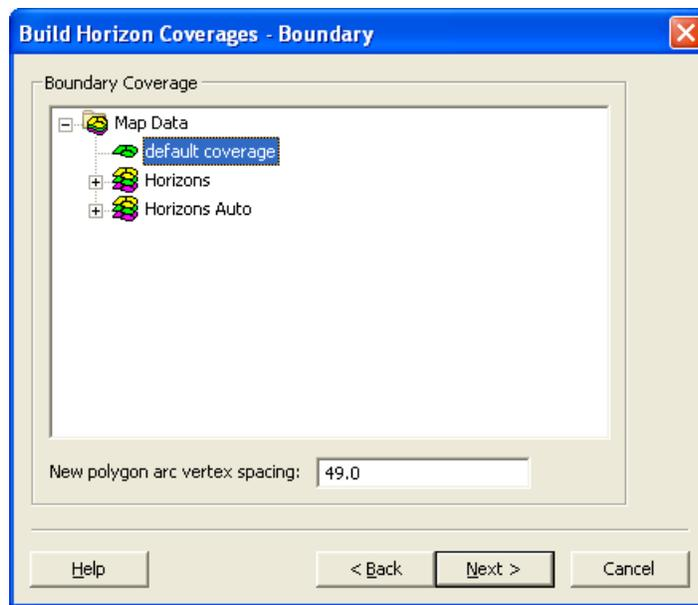

Figure 6. Selecting the Starting Coverage.
7. In the next step, select the **default coverage** as shown in Figure 6. Click *Next*.